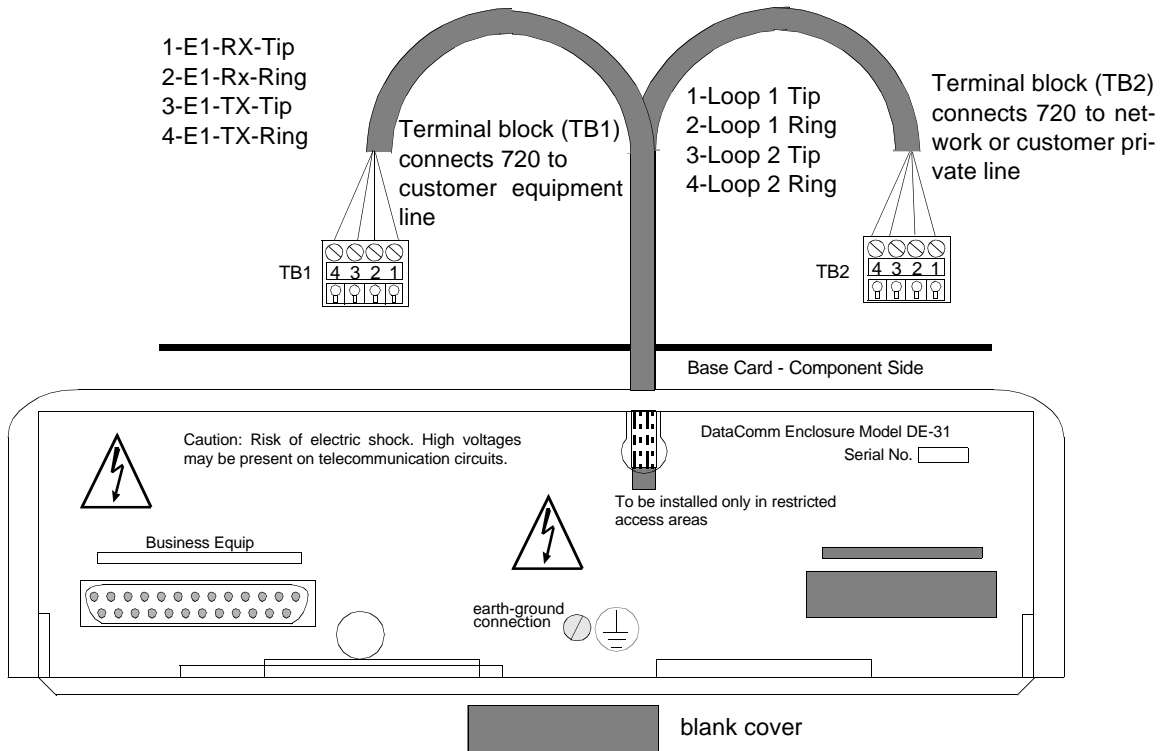

Figure 2-3 DE-31 Standalone Enclosure Rear Panel
You may make HDSL line connections to the 720-G2RP standalone using TB2, located on the basecard. Refer to *Figure 2-3*, shown next.
- See *Figure 2-3* and connect the E1 line and HDSL loops to the network connectors on the rear panel.